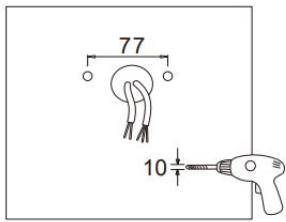

Figure 19
4. YOKE MOUNTING (YM)
Step 1: Drill holes on the wall as shown. (Figure 19)